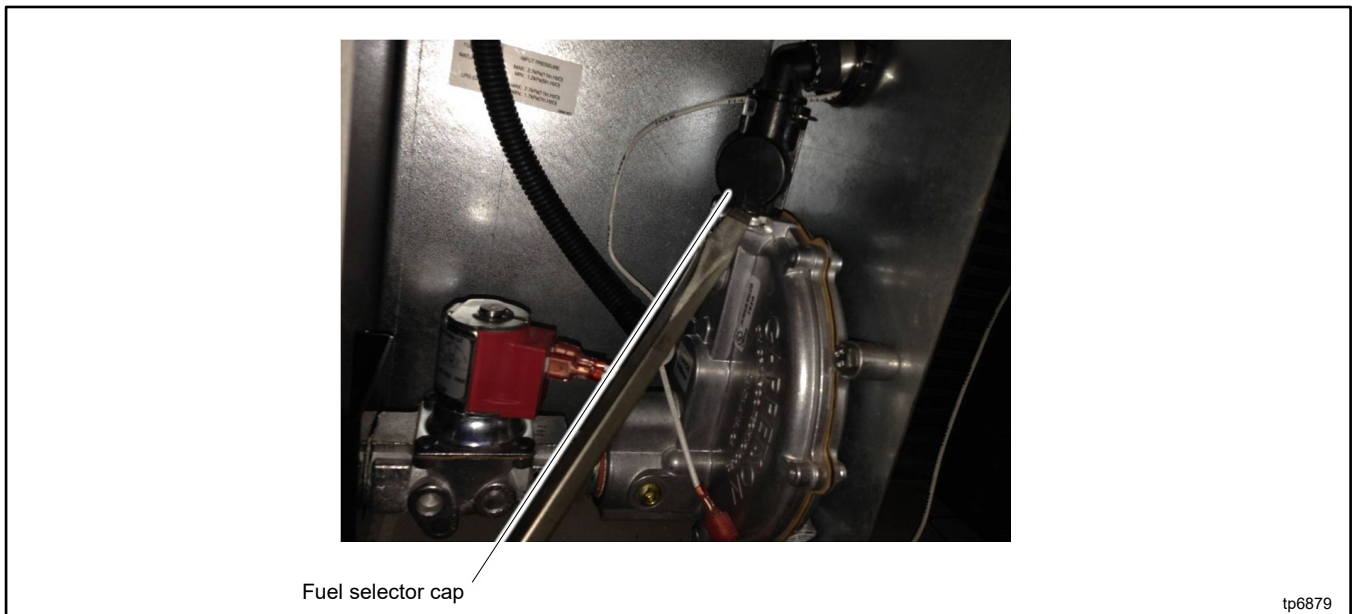

Figure 15 Cap Removal
6. Remove the cap from the fuel selector valve. See Figure 15. Insert a flat head screwdriver under the lip of the cap and push it upwards. Keep the cap close by as it is needed to switch fuels in the next step.